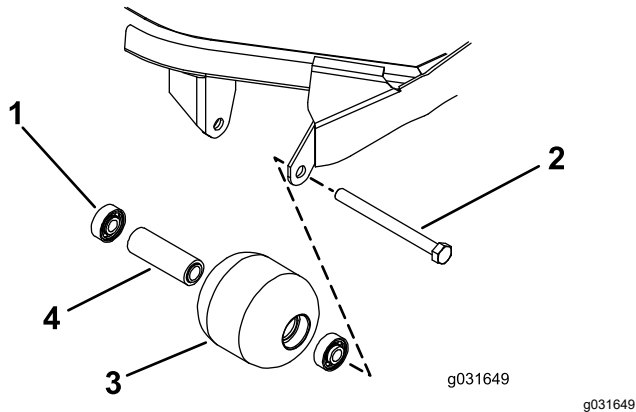

Figure 72
1. Remove the roller-mounting bolt (Figure 72).
4. Inspect the roller housing, bearings, and bearing spacer for damage (Figure 72).
1. Pressing on the outer race only or equally on the inner and outer race, press the first bearing into the roller housing (Figure 72).
2. Insert the spacer (Figure 72).
3. Pressing on outer race only or equally on the inner and outer race, press the second bearing into the roller housing until it contacts the spacer (Figure 72).